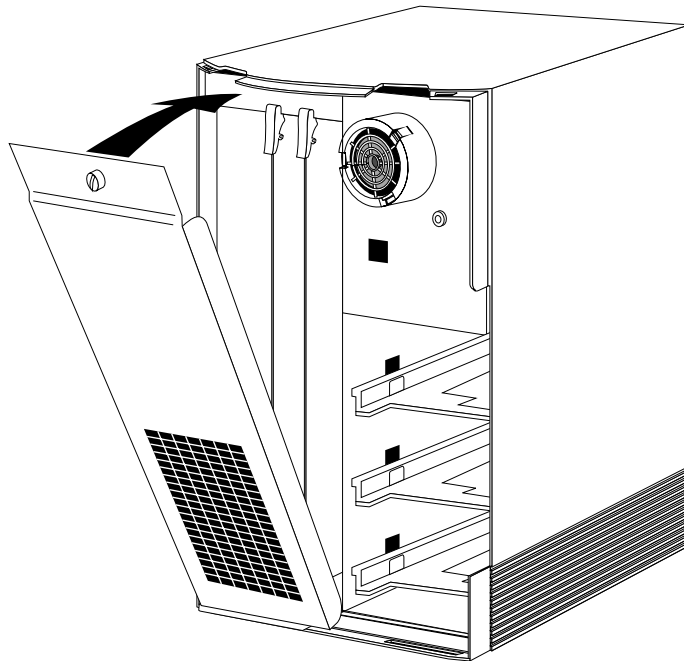

Figure 12 Tilting the Metal Panel Up to the Indigo
5. Close the front metal panel (Figure 12).
- Tilt the metal panel back up to the Indigo chassis, as shown in Figure 12.